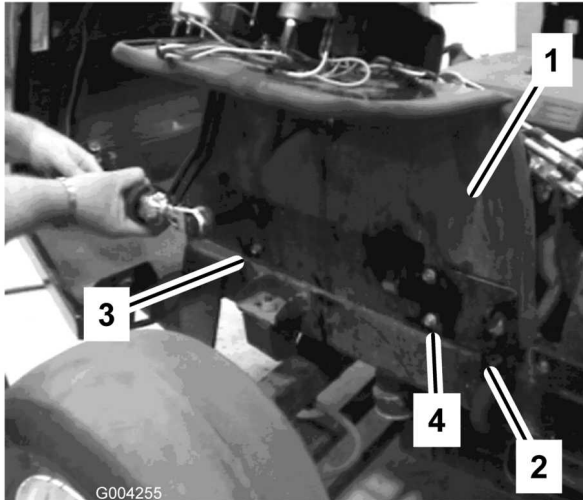

Figure 1
2. Remove the 4 bolts retaining the splash guard and bracket to the frame and existing shift selector assembly (Figure 1). There are two short bolts in the front and two longer bolts to the rear securing the bracket and guard. Retain the bracket and fasteners for later use.